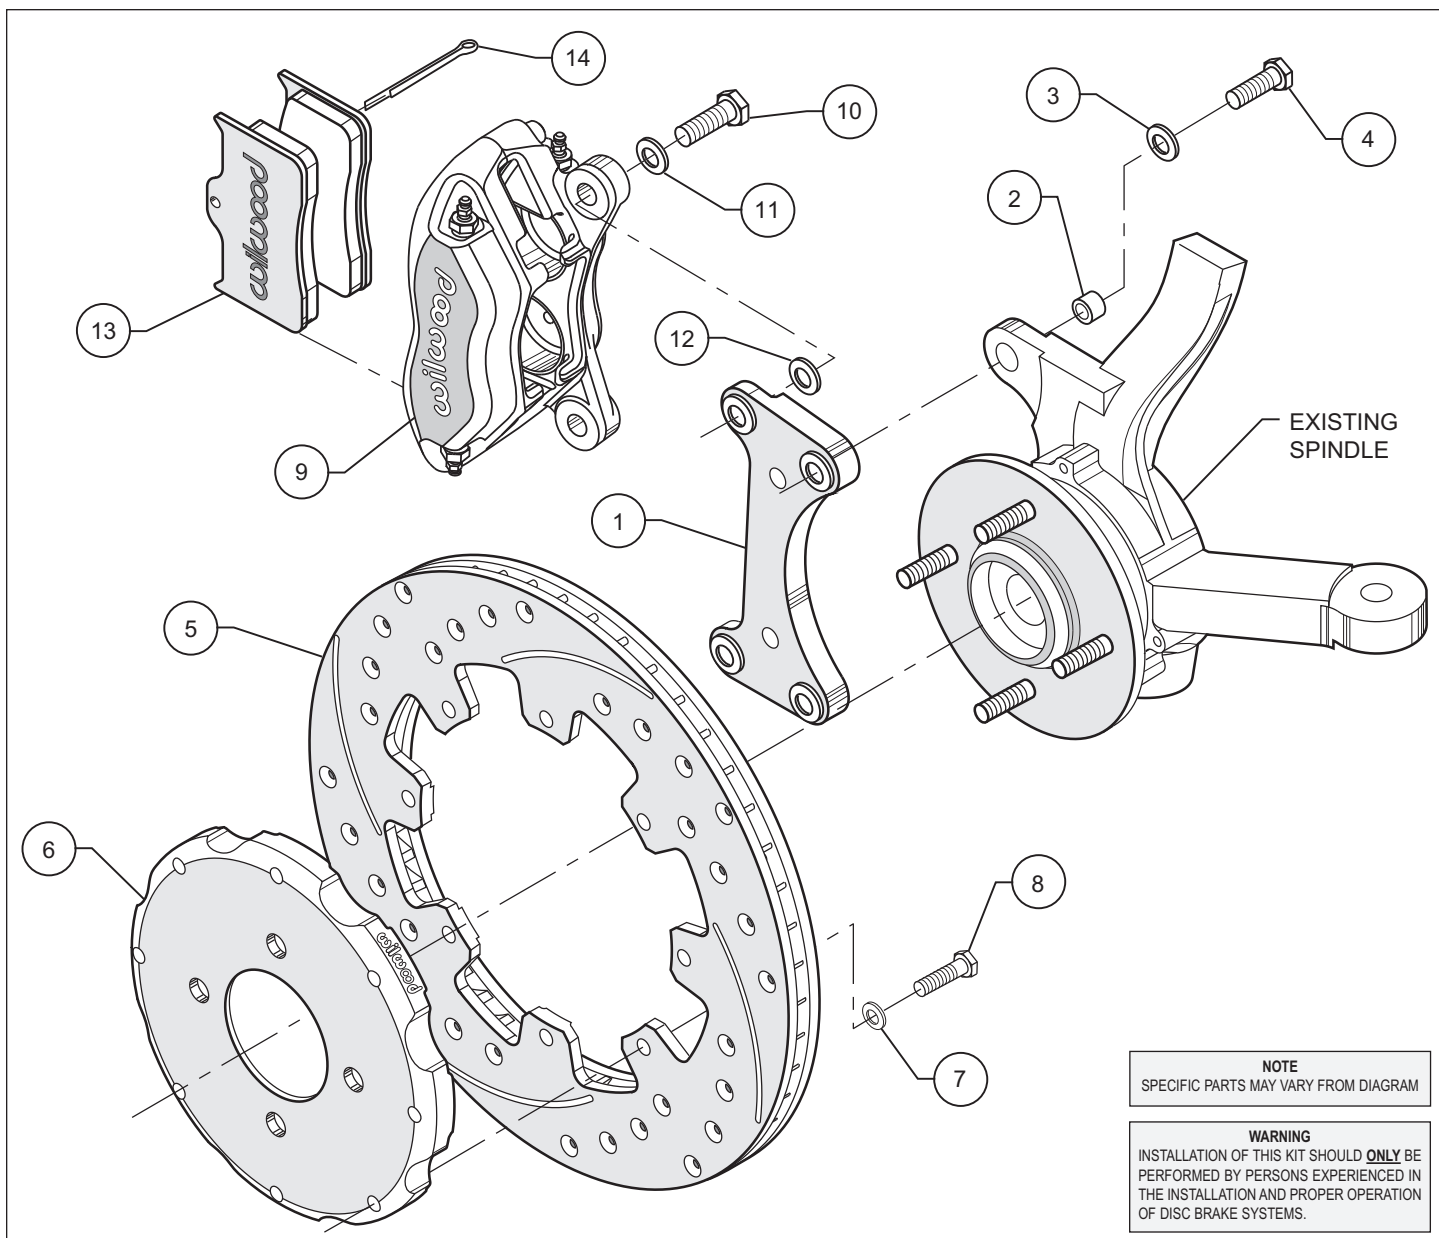
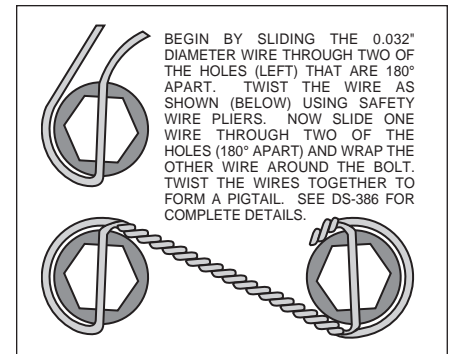

Figure 1. Typical Installation Configuration
Figure 3. Safety Wire Diagram
- Insert one sleeve (2) each into the holes on the top and bottom of the spindle "ears" where the OEM caliper bracket was removed. Apply red *Loctite*® 271 to the caliper mounting bracket bolt threads (4) before installation of the caliper mounting bracket (1). Install the bracket with the flanged heads of the clinch nuts facing outboard, as shown in Figure 1. Slide bolt (4) through washer (3) and into the previously installed sleeve (2), from the backside of the spindle. Finger tighten. Repeat for the lower mounting holes. Torque bolts to 75 ft-lb.
•With the larger I.D. side of the rotor (5) facing away from the hat (6), attach rotor (5) to hat (6) using washers (7) and bolts (8) as shown in Figure 1. In a alternating sequence, remove bolts (8) one at a time, apply red *Loctite*® 271 to the threads, and torque to 120-144 **in-lb**. Safety wire bolts (8) using standard 0.032 inch diameter stainless steel safety wire as shown in Figure 3. Please refer to Wilwood's data sheet DS-386 (available at [www.wilwood.com/pdf/ds386.pdf](http://www.wilwood.com/pdf/ds386.pdf)) for complete safety wire installation instructions. Slide the rotor/hat assembly onto the axle hub. Install three lug nuts (finger tighten) to keep the rotor/hat assembly in place while continuing with the installation.